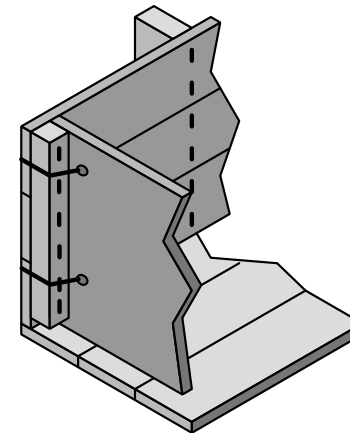

Figure 10: method of fixing tray ends with rubber or rope
- 8) Removable ends for the load tray can easily be provided in the way we have shown in Figure 10. The end is tied against the stop with rope or rubber. (Notice that there is a gap between the stop and the load tray so that the tray can be cleaned easily.